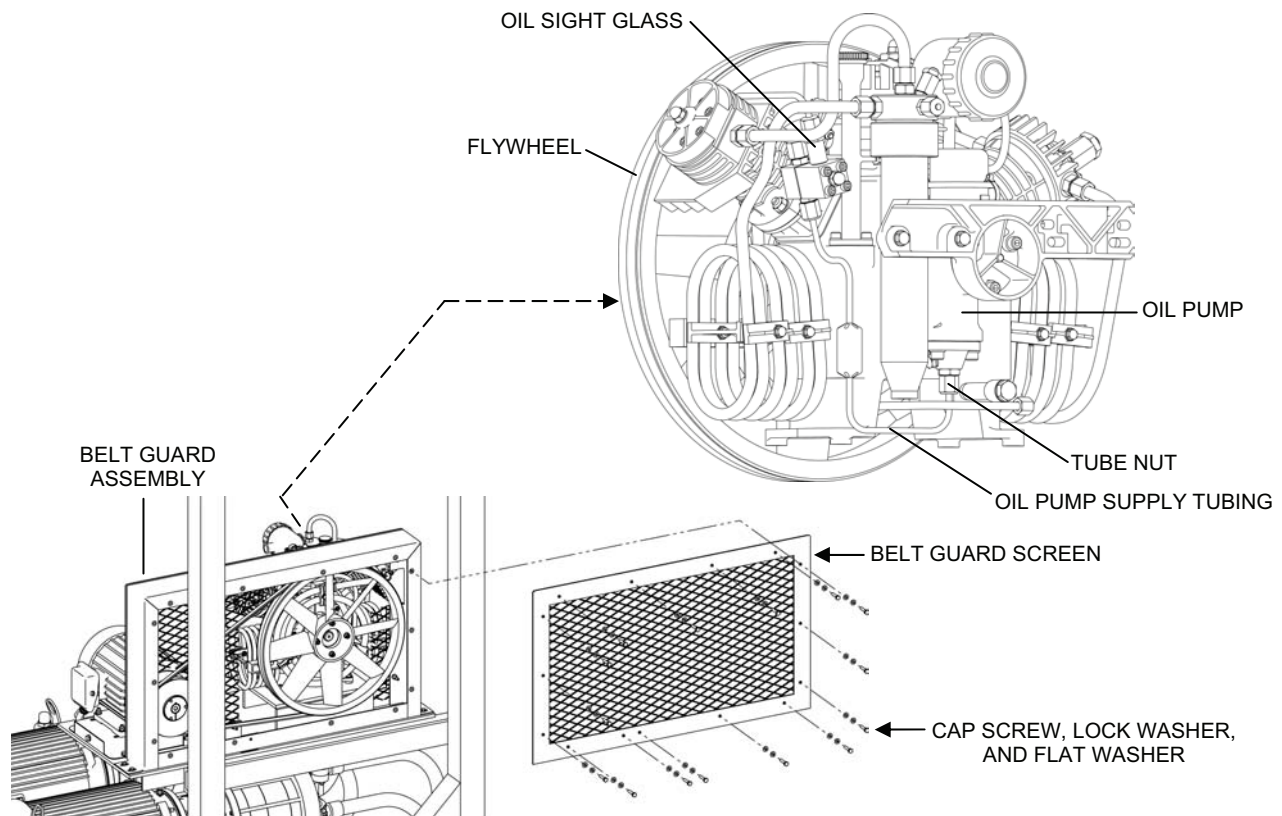

Figure 19. Air Compressor Oil Pump Supply Tubing and Flywheel.
3. Bleed the air compressor lubrication system (vent the oil pump) as follows (see Figure 19):